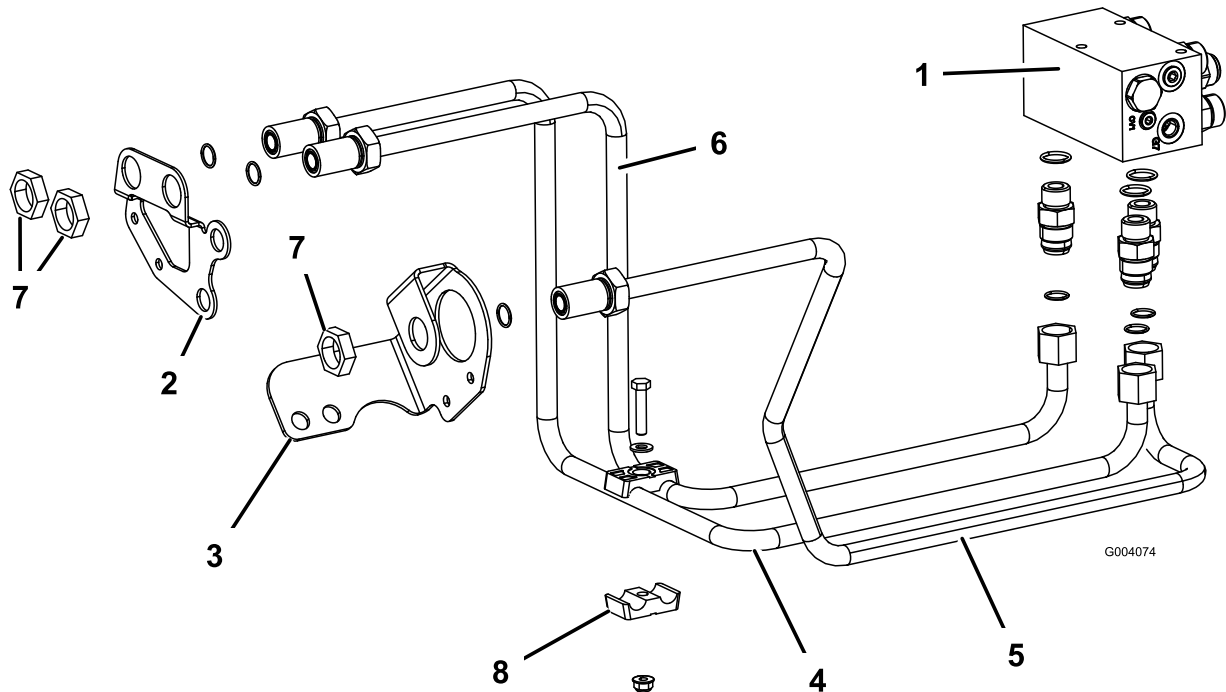

Figure 9
right hole in the right frame bulkhead bracket (Figure 9).
2. Secure the rear of the hydraulic tube to the manifold fitting and the front to the bulkhead with a bulkhead locknut (Figure 9).
3. Route hydraulic tube, Part No. 108-7626, from the center manifold fitting labeled "REV" to the hole in the left frame bulkhead bracket (Figure 9).
5. Route hydraulic tube, Part No. 108-7625, from the right manifold fitting labeled "LF" to the left hole in the right frame bulkhead bracket (Figure 9).
7. Secure the 2 right bulkhead lines together with the tube clamp halves, cap screw (5/16 x 1-1/2 inches), flat washer (.344 x .688) and a locknut (5/16 inch) (Figure 9).